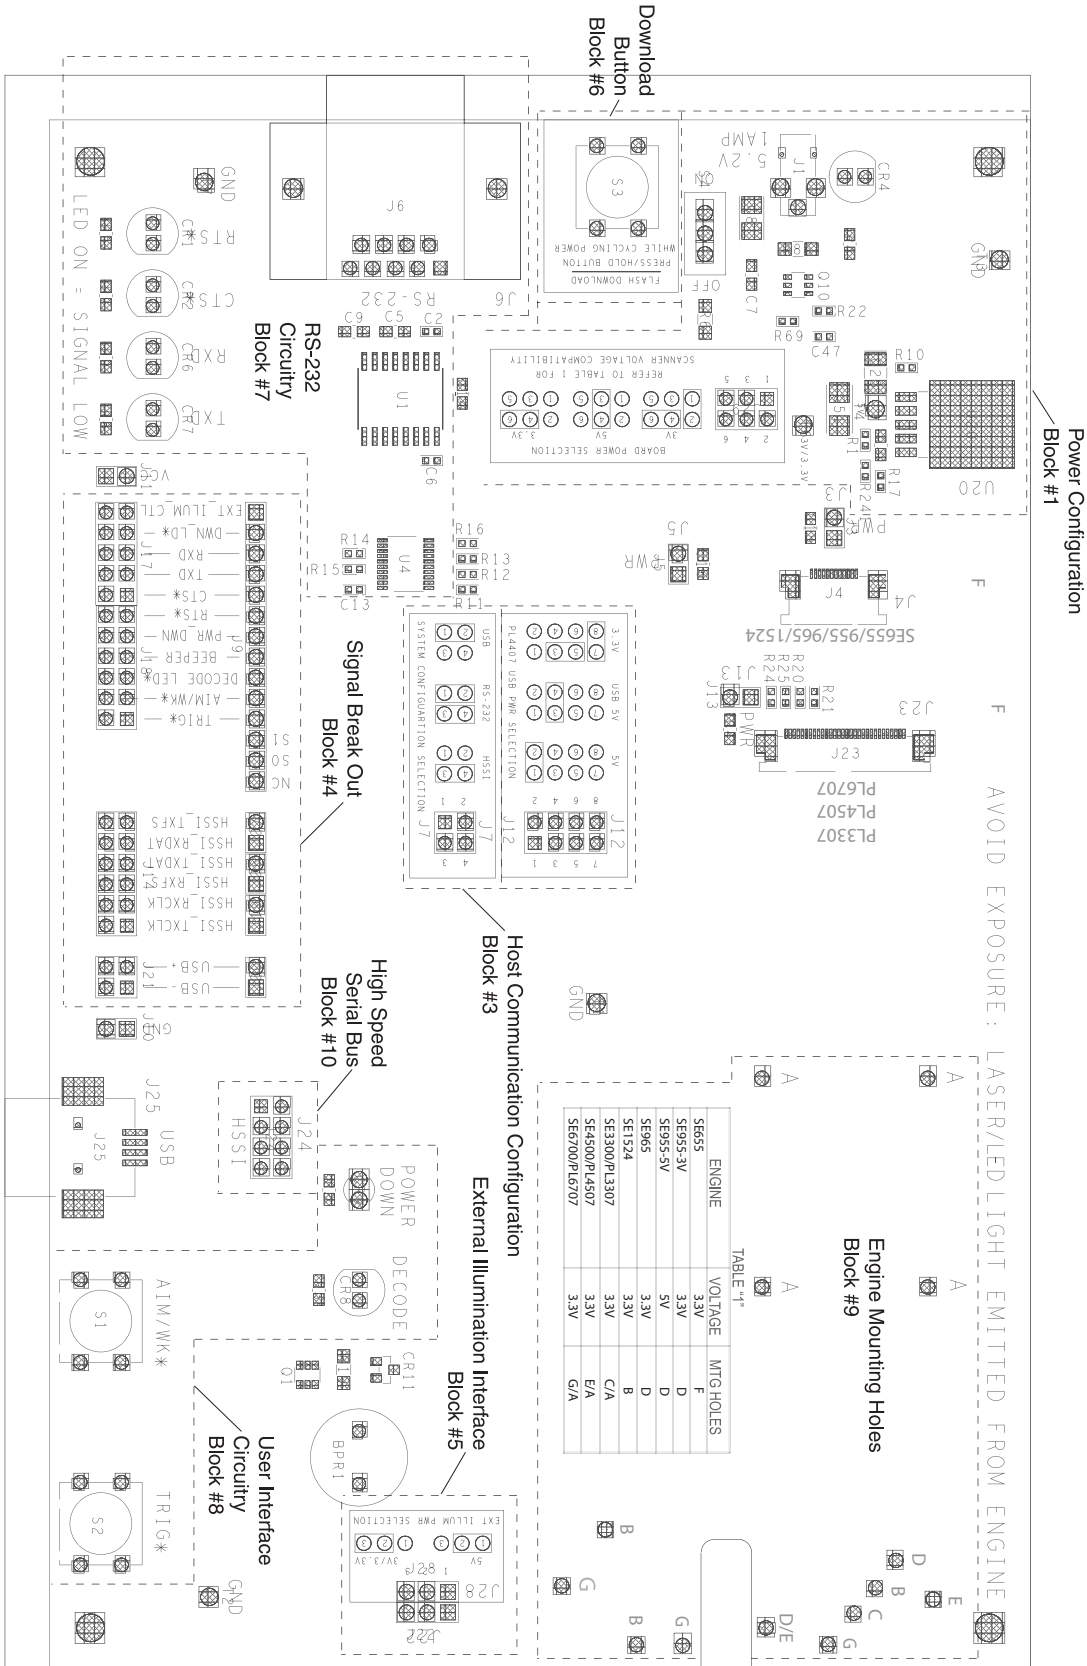

Figure 1-1 Universal Development Board Assembly
3. Determine the voltage requirements for the engine. See Table "1" in Figure 1-1 on page 1-5, which is silk-screened on the board, or see Table 2-1 on page 2-3.
The following sections detail the specific components on the board. Figure 1-1 on page 1-5 indicates each component or group of components on the assembly in outlined areas, by block number.